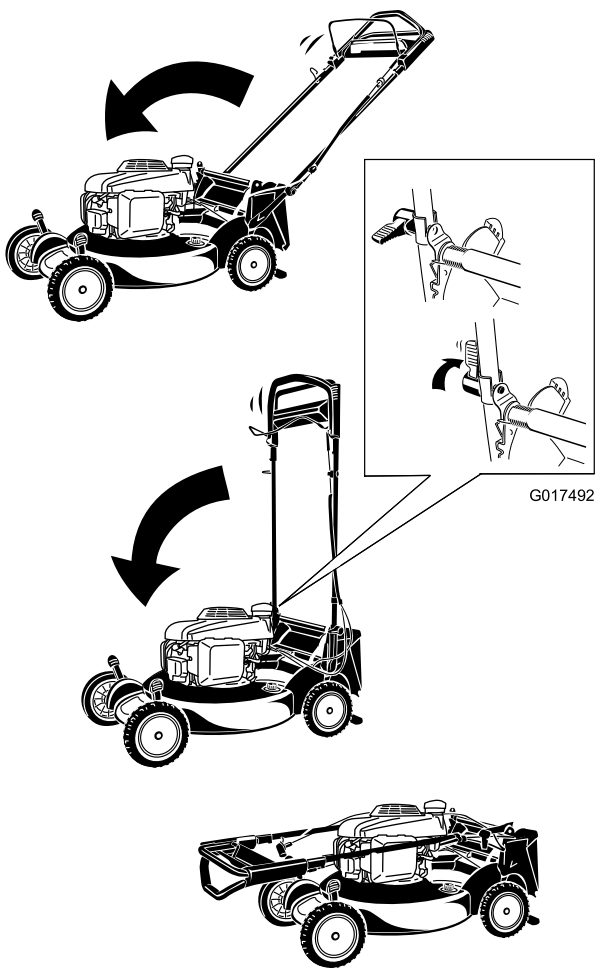

Figure 38
- Rotate the handle forward (Figure 38).